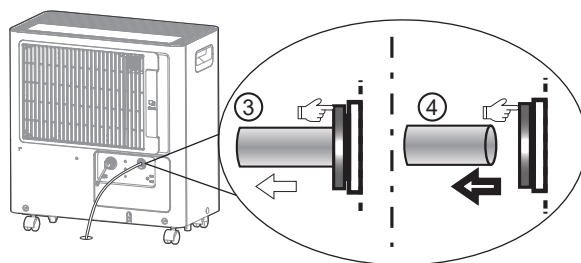

Fig. 7
- Keep pressing the grey ring while pulling out the plug. (as shown as Fig. 7);